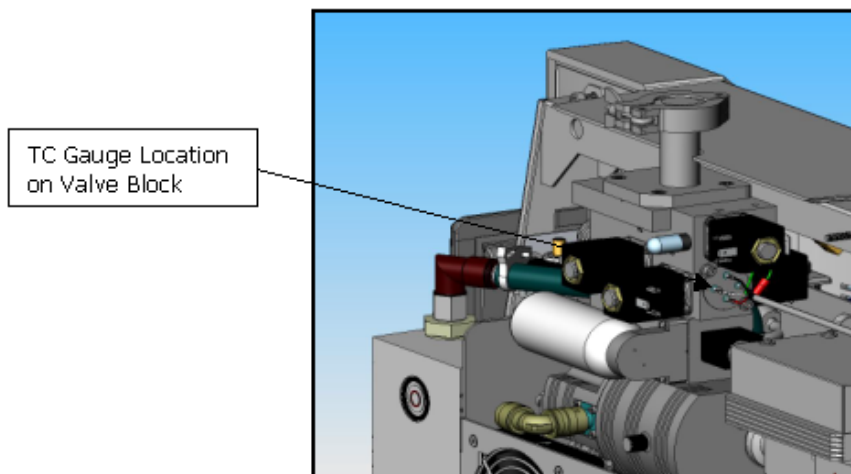

Figure 3: TC Gauge Location
8. Using an M4 Allen wrench remove the TC gauge and cable assembly from the valve block. Retain the two screws and the two washers. Discard the TC gauge and cable assembly (Figure 3: TC Gauge Location).